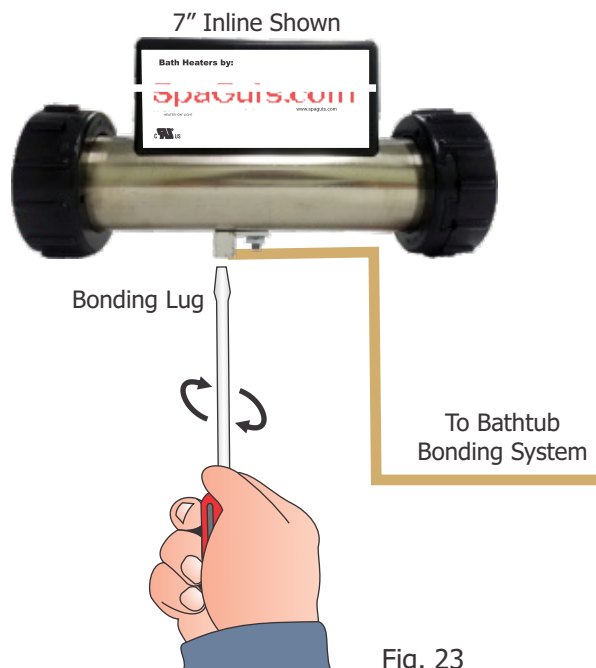

Fig. 23
- 7 - You are now ready to install the tailpieces onto the bathtub plumbing. Apply PVC glue to one end of the plumbing. Spread glue evenly over a 1-1/4" area from the end of the cut. Quickly apply glue to the inside socket of the tailpiece. Before the glue dries, slide the tailpiece onto the plumbing with a slight twisting motion assuring it has reached the stop built into the tailpiece and hold for 15-seconds to allow the glue to setup. Wipe away any excess glue and repeat the gluing process on the second tailpiece. Once the glue has set, you should have approximately 7" opening for part numbers: SG101-15UP, SG101-15UV, SG101-10UP, SG101-10UV, SG101-65UP, SG101-65UV, SG301-15UP & SG301-15UV **OR** 5-1/2" opening for part numbers: SG101-15UP-S & SG101-15UV-S (see Fig. 23) in order to install your Whirlpool Bath Heater.